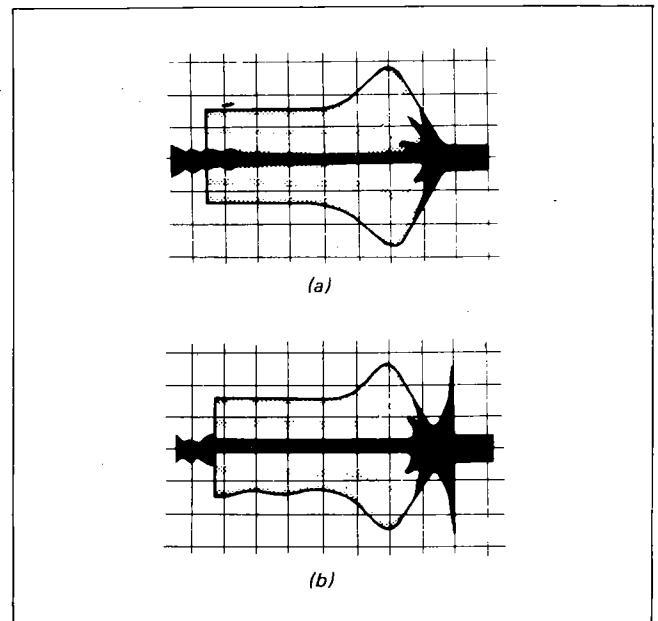
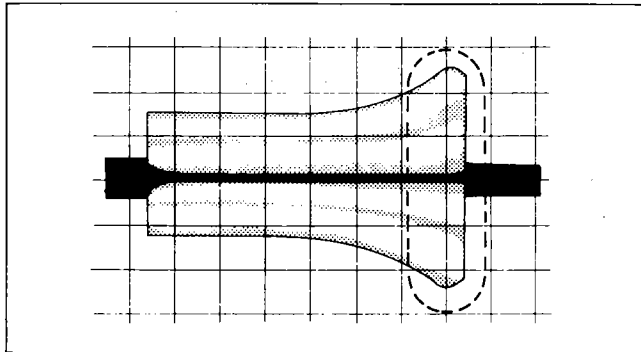

Fig. 4-18.
Fig. 4-19.
- 4) At this time, confirm that the exit free waveform is within the range shown Fig. 4-18(a) and (b).
- When the exit free waveform is out of the correct range, and is in the form shown in Fig. 4-19, adjust as follows. Loosen the capstan mounting screw, then turn the adjustment screw counterclockwise until the waveform falls within the range shown in Fig. 4-18(a) and (b).
- If the exit waveform is outside of its correct range and has the form shown in Fig. 4-20, adjust as follows. Loosen the capstan mounting screw, then turn the adjustment screw clockwise until the waveform is brought within the range shown in Fig. 4-18(a) and (b).